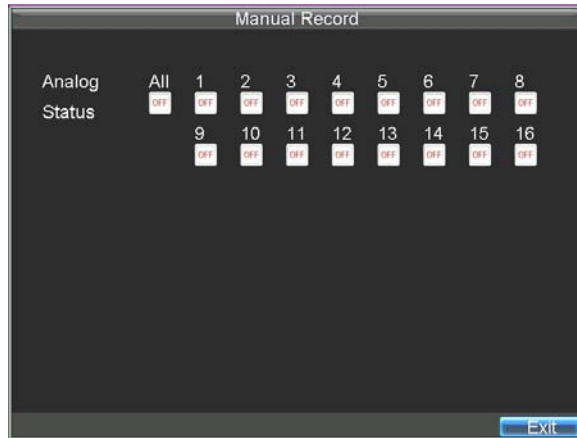

Figure 5. Manual Record Menu
1. Press the *REC* button on the front panel to access the **Manual Record** dialog box, shown in Figure 5.